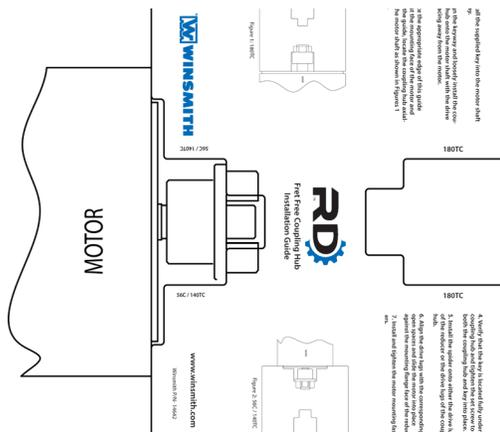

Figure 1
7. Place the appropriate edge of the coupling hub installation guide against the mounting face of the motor and using the guide, locate the coupling hub axially on the motor shaft as shown in Figure 1 and 2.